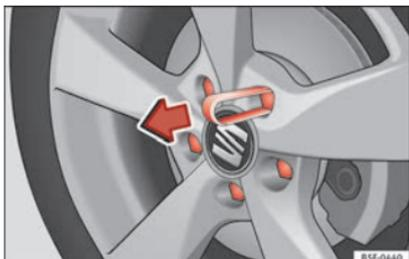

Fig. 183 Wheel: wheel bolts with caps.
- Fit the plastic clip (vehicle tools) over the cap until it clicks into place » Fig. 183.